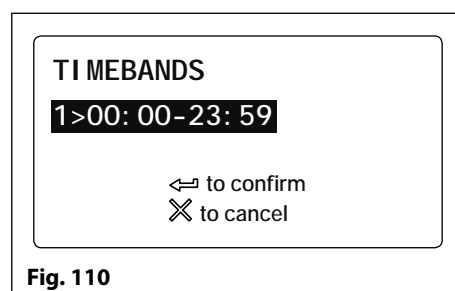

Fig. 110
- 1 -  When set in this mode and the panel's onboard relay is activated the display will show that the gate is open (refer to **Fig.110** on pages 60 - 61). The speech annunciation (if the speechboard is switched ON) will announce "the gate is open".
To enter a time period for one of the programmable timebands press the relevant button to make the selection. The display will access the 2nd timeband screen and the current time period will be highlighted on the second line of the display (refer to **Fig.110**).